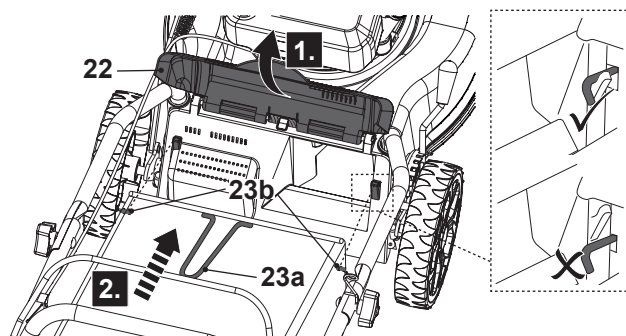

Fig. 6
2. Open the rear deflector guard (22) and hold it in position (Fig. 6, step 1).
4. Align the hooks (23b) with the slot and hang the grass catcher onto it (Fig. 6) correctly.